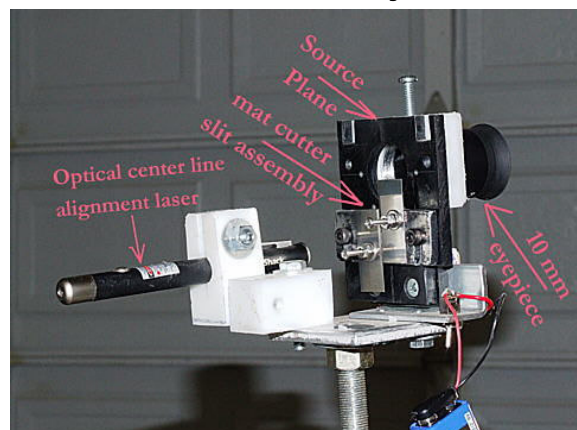

Fig. 18. Source Plane, Eyepiece and Quick Align Laser.
- Attach a plastic mirror to the *Source Plane* – Fig. 18. Direct a laser pointer through the hole of the plastic mirror to the center of the test mirror.
1. Rotate the tester so that the attached laser hits the center of the mirror – Fig. 18.
- Attach the *10 mm eyepiece* to the back of the Source Plane – Fig. 18.
- Move the tester laterally to align the center-slit image to the edge of the upper mat cutter blade – Fig. 18.